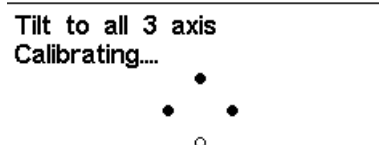

Figure 7.3: Compass Calibration Indication Points
The magnetometer has 3 axes (Figure 7.2) which are associated with the instrument reference frame. Turning the instrument around each of the 3 axes will change the Yaw, Pitch and Roll angles. In order to make a proper calibration the instrument should be turned/rotated slowly in each of the 3 axis. It is not important to make a complete rotation, or the order in which the turns are made. What is important is that instrument is rotated to vary the Yaw, Pitch and Roll from an angle near -90° to $+90^\circ$. An indication of the calibration procedure state is given using 4 circles that are shown at the bottom of the calibration page (see Figure 7.3). The top and bottom circles are associated with the Pitch angle, while the left and right circles are associated with the Roll angle. When the calibration is initiated all the circles are empty (no color). If the instrument is rotated so that the pitch angle gets close to -90° then the top circle is filled black. Similarly, if the pitch angle gets close to $+90^\circ$ then the bottom circle is filled black. The same thing happens with the left and right circles when the instrument is rotated for the Roll angle. No indication is given for the Yaw angle. The calibration procedure is automatically terminated when all the circles become black. In the figure Figure 7.3 all the circles are black except the bottom one. The complete calibration procedure can be summarized in the following points:
1. Go to Menu->Settings->Calibration and choose the "Calibrate Compass" option (see Figure 7.3);